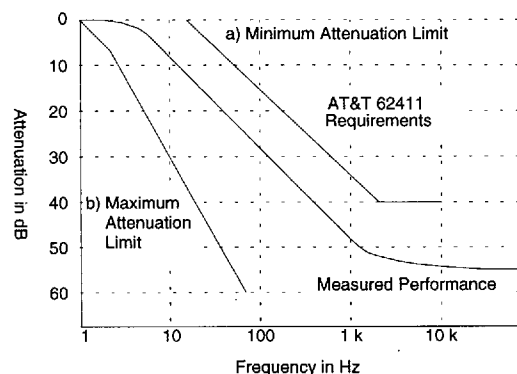

Figure 10. Typical Jitter Attenuation Curve
G.742. A typical jitter attenuation curve is shown in Figure 10.